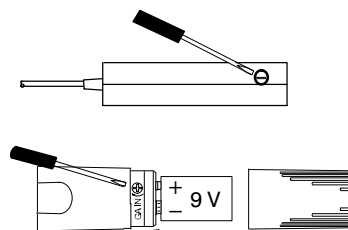

FIGURE 10. GAIN ADJUSTMENT
- To Increase Gain:** Rotate the transmitter gain control clockwise with the supplied screwdriver, as shown in Figure 10, until the red TRANSMITTER AUDIO PEAK light on the receiver flickers when the guitar is played loudly, or when you sing or speak in a loud voice.
- To Reduce Gain:** Rotate the transmitter gain control counterclockwise, as shown in Figure 10, until the red TRANSMITTER AUDIO PEAK light on the receiver flickers only when the guitar is played loudly, or when you speak or sing in a loud voice.
- To Return Audio Gain to the Factory Setting:** Rotate the transmitter audio gain control counterclockwise as far as it will go (AXUGD systems), clockwise as far as it will go (AX-UHD systems), or to mid position (AXU58D and AXULD systems). See Figure 10.